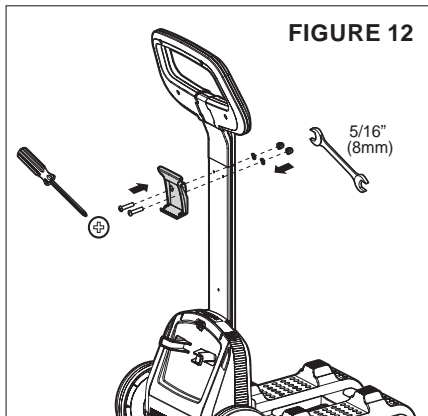

FIGURE 12
1. Using the two longer Phillips-head screws, two washers and two 5/16" (8 mm) nuts provided with the caddy, install the power supply hook onto the handle support. See **Figure 12**.